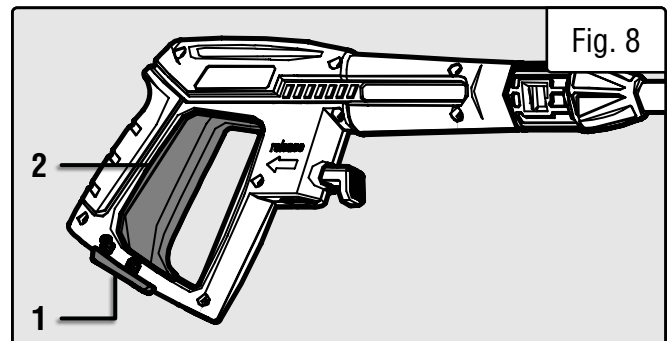

Fig. 8
4. UNLOCK the power trigger lock (Fig. 8 - 1).
4. Hold the spray gun with two hands and be sure to point it in a safe direction away from animals, bystanders, and yourself. Press the power trigger (Fig. 8 - 2) until a consistent stream of water flows through the lance, to allow air trapped in the hose to escape.